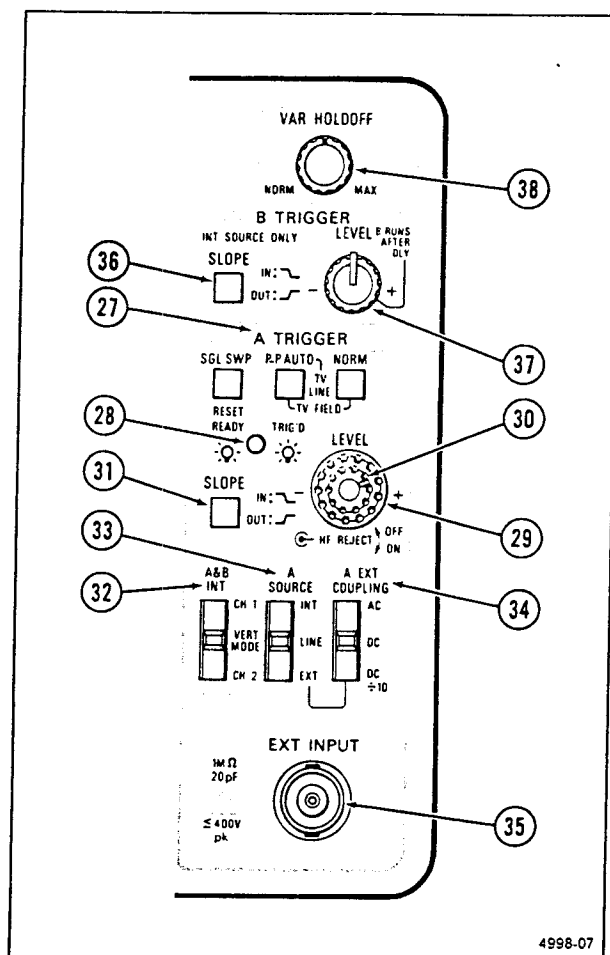

Figure 2-7. Trigger controls, connector, and indicator.
Refer to Figure 2-7 for location of items 27 through 38.